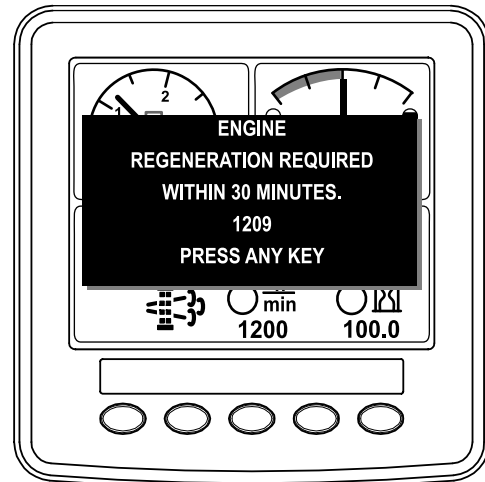

Figure 2
- If you ignore the request for a parked regeneration (displayed in the InfoCenter) and continue to operate the machine (Figure 2), a critical amount of soot may accumulate in the DPF.